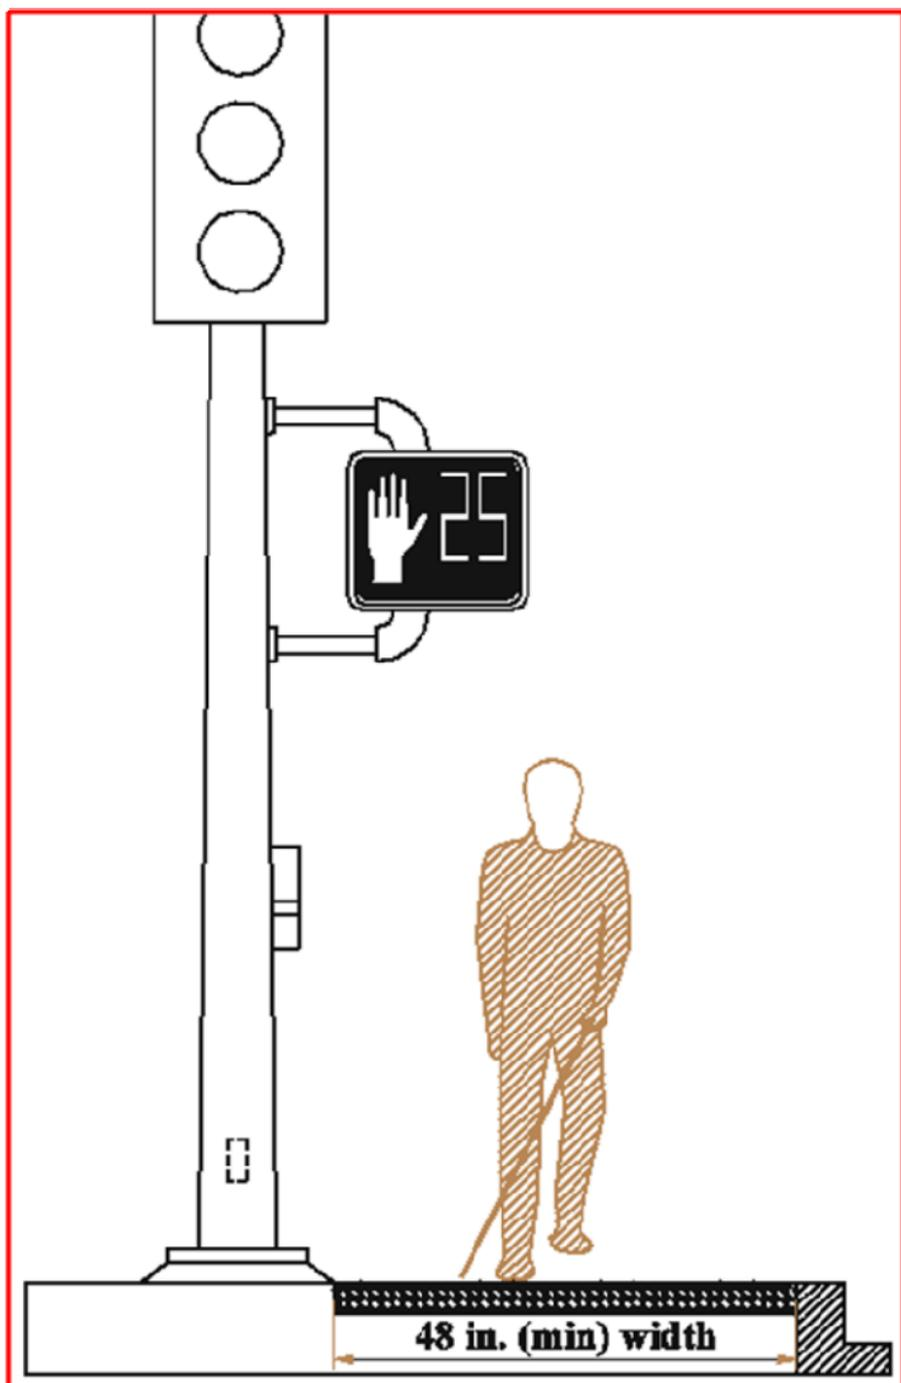

Figure 7. Minimum Path Width
- The path must have a clear width of no less than 48 inches. Verify that no fixed objects (cabinets, poles, and so forth) will reduce the path width at any point. (See Figure 7.)